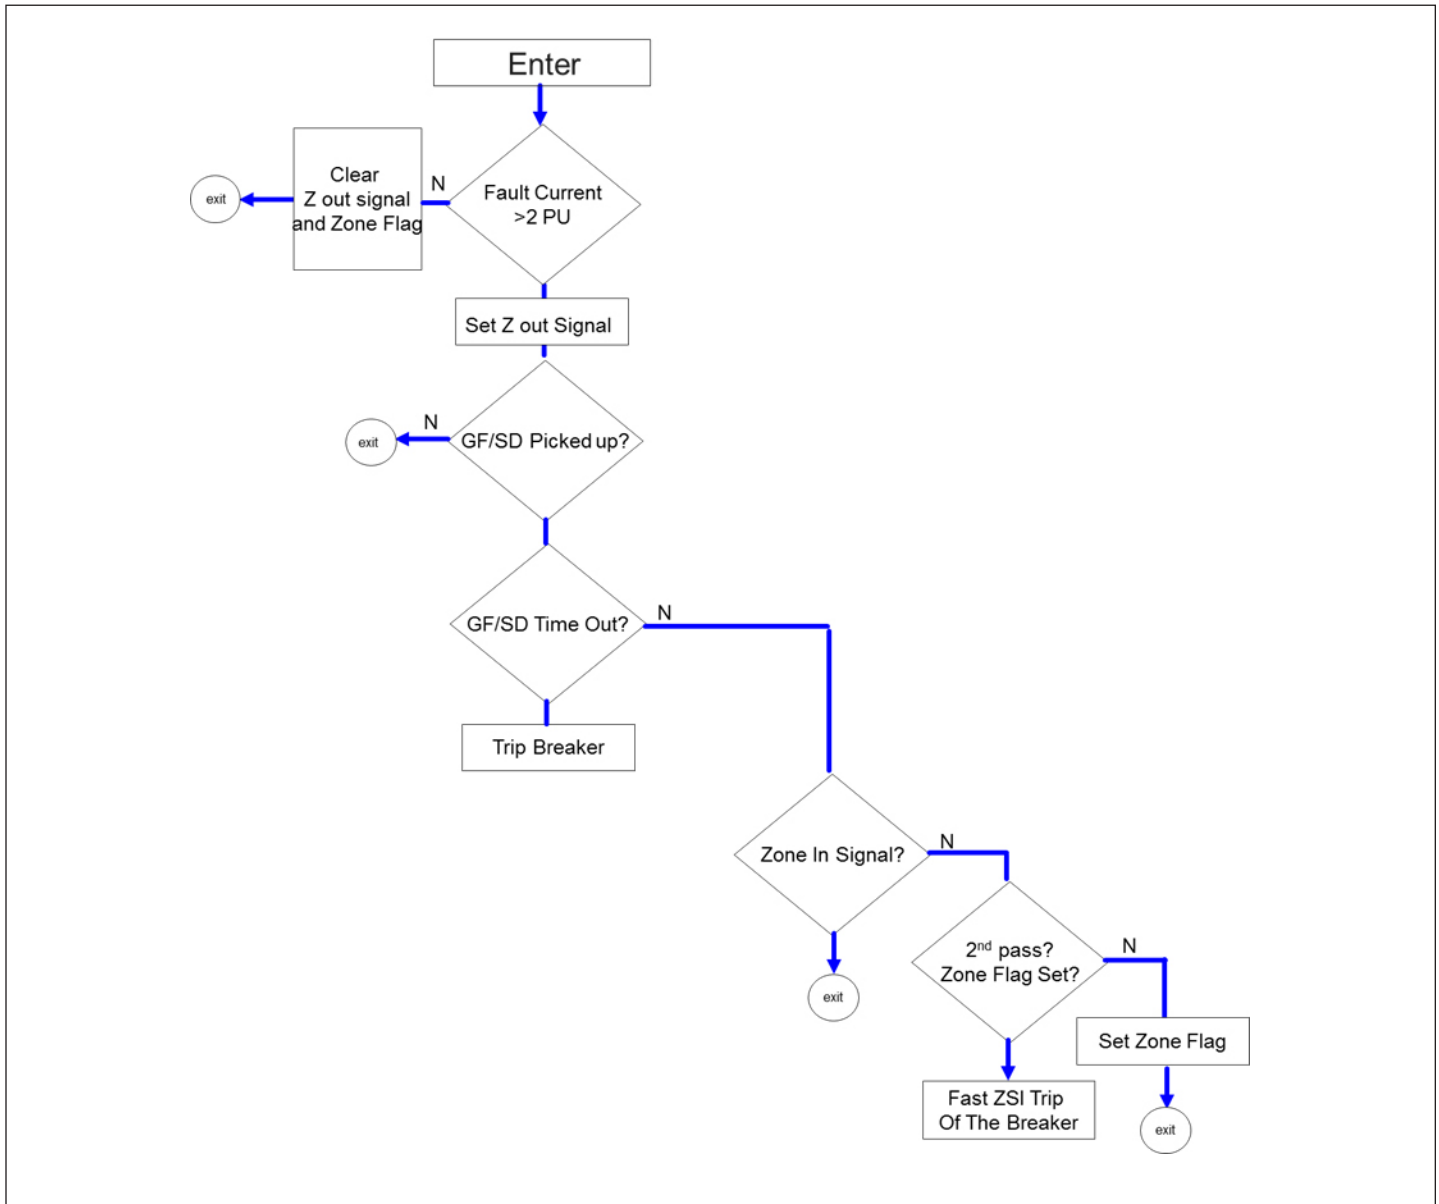

Figure 11. ZSI internal logic flow chart.
The flow diagram in Figure 11 shows the logic flow of a typical protective unit with the ZSI function. Not all units have the same logic.
1. The time at where in the protection software code does the fault happens is one factor. As can be seen in Figure 11, if the fault happens right when the ZSI routine is entered the ZSI output and flags will be set right away. If the fault happens at the end of the routine it may be several milliseconds before the routine is entered again.
4. As shown in Figure 11 the input signal needs to be verified several times to make sure there will be no nuisance tripping on false signals and that sampling time adds to the delay time.